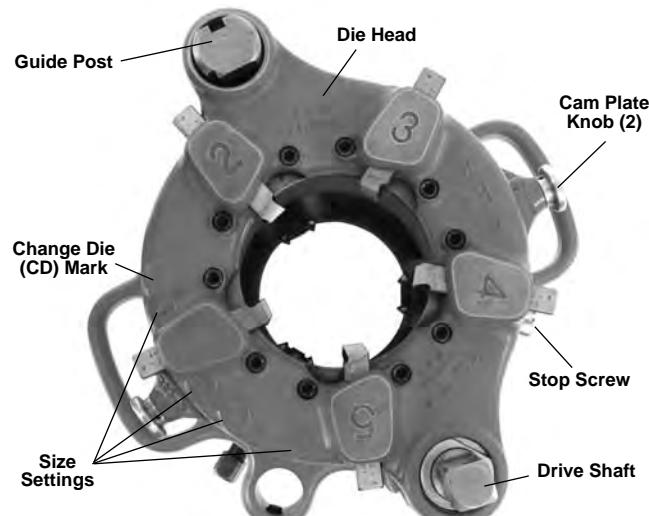

Figure 3 – Geared Threader With Drive Shaft Up (Model 141 shown)
2. Remove stop screw from the selector plate (*Figure 3*).